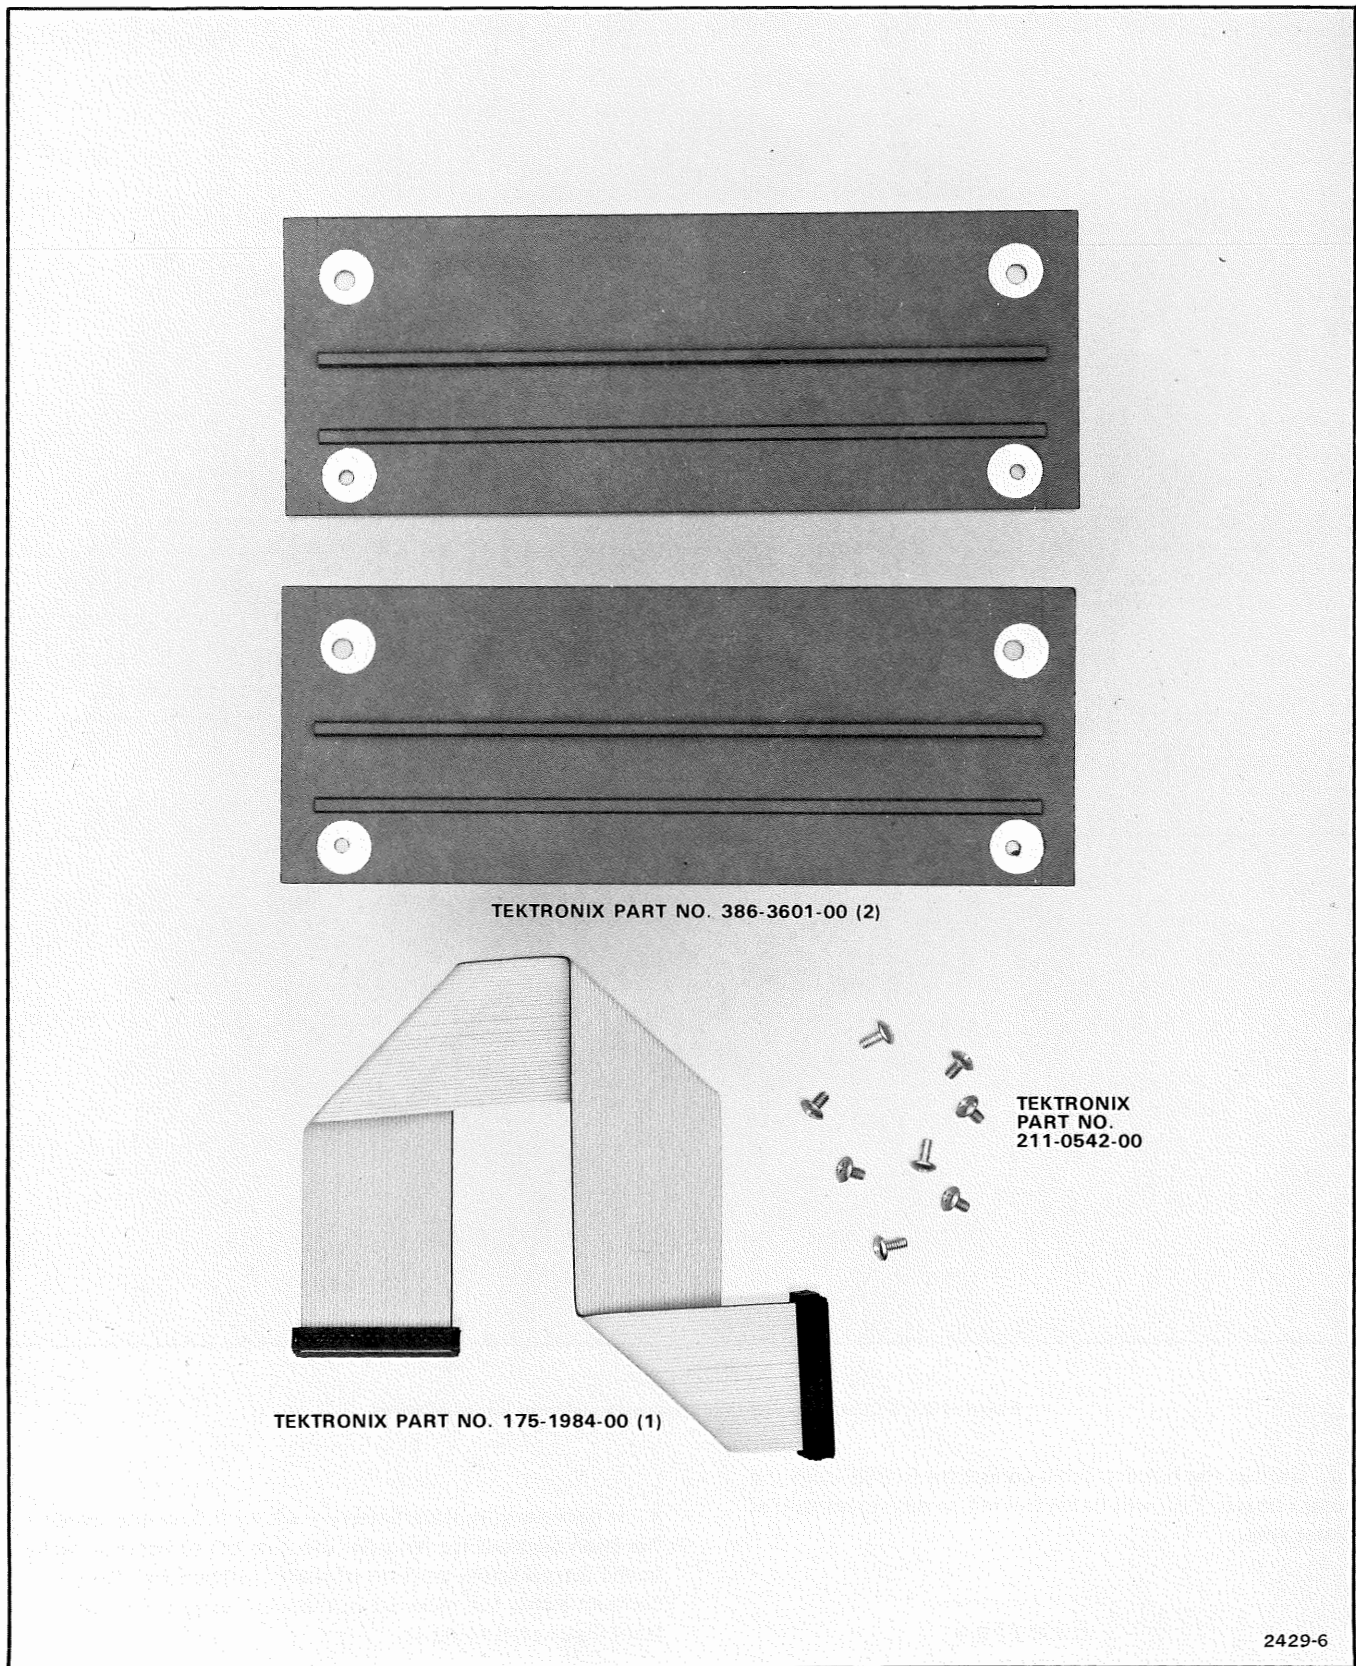

Figure 1-28. Contents of the 016-0638-00 monitor/recorder Adapter Kit.
1. Check contents of Adapter Kit. Check that you have all the components before beginning. See Figure 1-28.